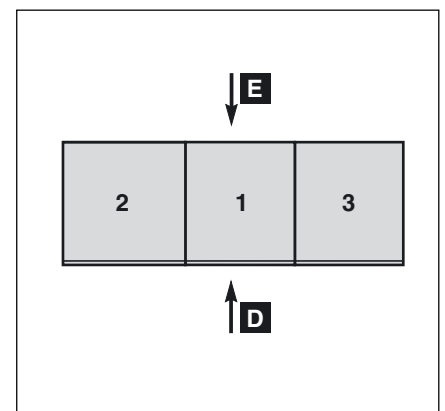

Fig. 6
- ▶ see figure 6 for a single-UPS **MGE™ Galaxy™ PW** unit with several battery cubicles;